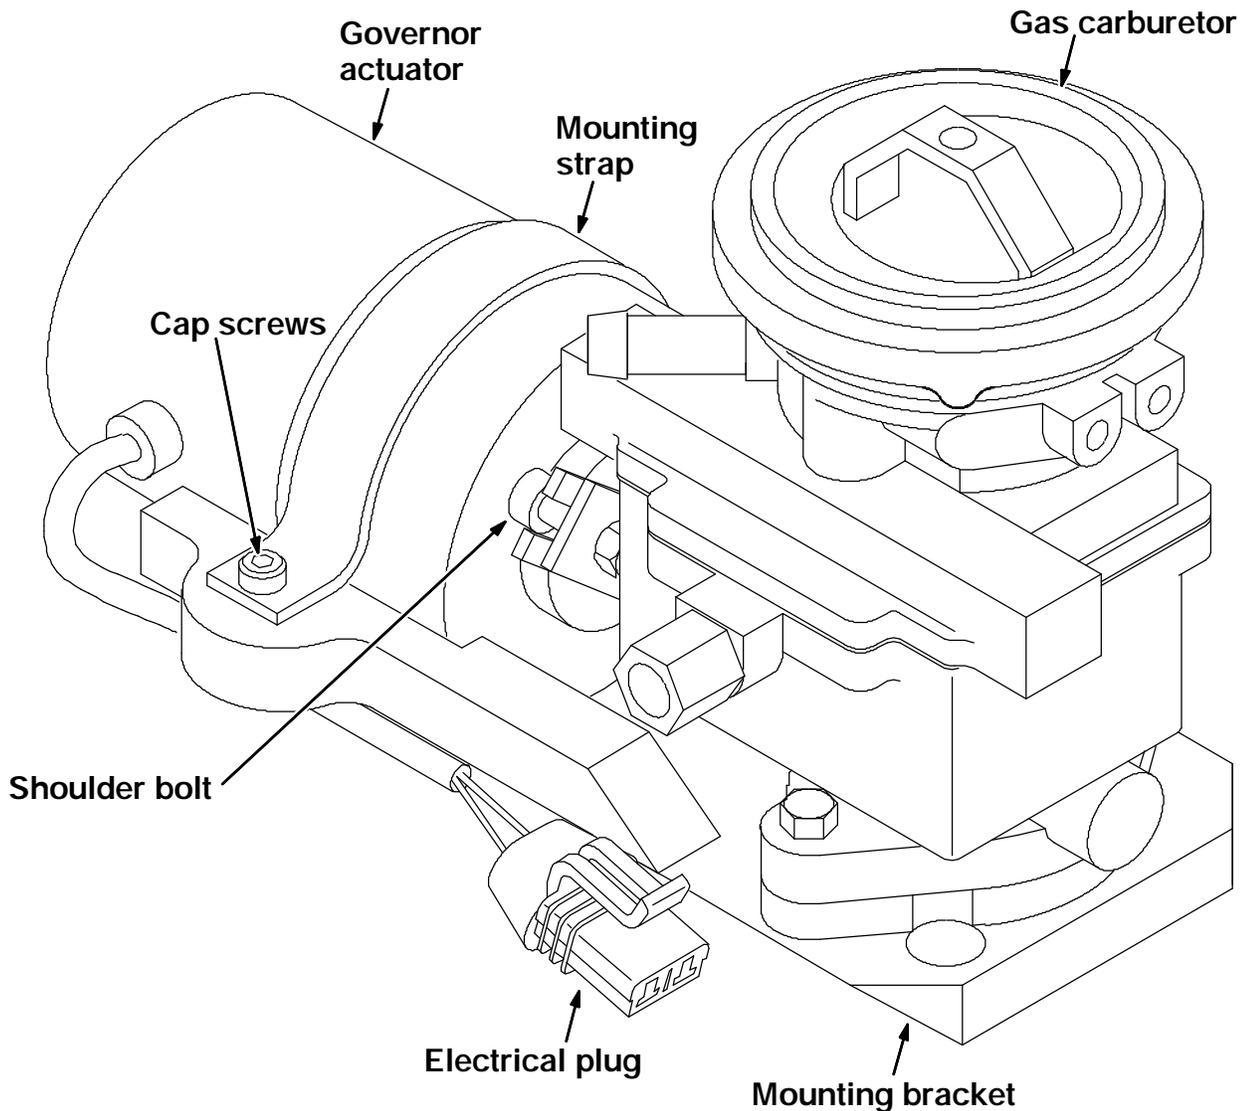

FIG. 1 - Carburetor And Actuator Assembly
(Refer to FIG. 1 and 2)
3. Remove the air cleaner hose at the carburetor. (Refer to FIG. 1 and 2)
4. Remove the hose from the carburetor that leads to the engine breather. (Refer to FIG. 1 and 2)
5. Remove the vacuum line from the carburetor that leads to the LP lock-off. (Refer to FIG. 1 and 2)
6. Remove the LP hose from the carburetor. (Refer to FIG. 1 and 2)
7. Remove the two M6 hex nuts from the two hex screws holding the carburetor to the governor mount base. Remove the carburetor from the machine. Retain the gasket and hardware. (Refer to FIG. 1 and 2)
NOTE: When removing the carburetor, lift the arm and shoulder bolt up and out of the slot on the arm of the governor actuator. (Refer to FIG. 1 and 2)
8. Remove the arm from the old carburetor and install on the new carburetor (3) in the same orientation. (Refer to FIG. 1 and 2)
NOTE: Install the arm flush with the end of the shaft and position the arm to swing approximately equal distance on either side of vertical. Tighten the arm clamp bolt with the nyloc nut. Firmly tighten. (Refer to FIG. 1 and 2)
10. Install the new carburetor (3) and gasket on the mount bracket (2). Install the M6 hex screws up through the bottom. Install the hex nuts. Do not tighten the hardware at this time. (Refer to FIG. 1 and 2)
NOTE: When install the carburetor on the mount bracket, position the shoulder bolt in the slot on the actuator arm. (Refer to FIG. 1 and 2)
11. Align the shaft on the carburetor (3) with the slot in the mount bracket and the shaft on the actuator.. Firmly tighten the hardware. (Refer to FIG. 1 and 2)
12. Reconnect the LP hose, vacuum hose, and air cleaner hose to the new carburetor. (Refer to FIG. 1 and 2)
13. Open the valve on the LP tank. Check the LP hose, at the carburetor, for any leaks. (Refer to FIG. 1 and 2)
2. Remove the air cleaner hose at the carburetor. (Refer to FIG. 1 and 2)
3. Remove the air cleaner horn from the carburetor. (Refer to FIG. 1 and 2)
5. Remove the gas line from the fuel filter. (Refer to FIG. 1 and 2)
6. Remove the two M6 hex nuts from the two hex screws holding the carburetor to the governor mount base. Remove the carburetor from the machine. Retain the gasket and hardware. (Refer to FIG. 1 and 2)
7. Remove the arm from the old carburetor and install on the new carburetor in the same orientation. (Refer to FIG. 1 and 2)
9. Install the new carburetor (3) and gasket on the mount bracket (2). Install the hex screws up through the bottom. Install the hex screws. Do not tighten the hardware at this time. (Refer to FIG. 1 and 2)
10. Align the shaft on the carburetor (1) with the slot in the mount bracket and the shaft on the actuator. Firmly tighten the hardware. (Refer to FIG. 1 and 2)
11. Install the elbow and fuel filter from the old carburetor on the new carburetor (3).
12. Reconnect the gas line, breather hose, air cleaner horn, and air cleaner hose to the new carburetor (Refer to FIG. 1 and 2)
2. Unplug the governor actuator from the electrical harness. (Refer to FIG. 1 and 2)
3. Remove and retain the cap screw holding the wire clamp to the actuator mount bracket. (Refer to FIG. 1 and 2)
4. Remove and retain the two cap screws holding the mounting strap to the mount bracket. (Refer to FIG. 1 and 2)
5. Carefully remove the actuator from the mount bracket. (Refer to FIG. 1 and 2)
NOTE: When removing the actuator, slip the slotted arm out from the shoulder bolt on the arm of the carburetor. (Refer to FIG. 1 and 2)
6. Remove the arm from the old actuator and install on the new actuator (1) in the same orientation. (Refer to FIG. 1 and 2)
7. Install the new actuator (1) by sliding the slotted arm under the shoulder bolt on the carburetor arm and fitting the actuator in the matching radius of the mount bracket. (Refer to FIG. 1 and 2)